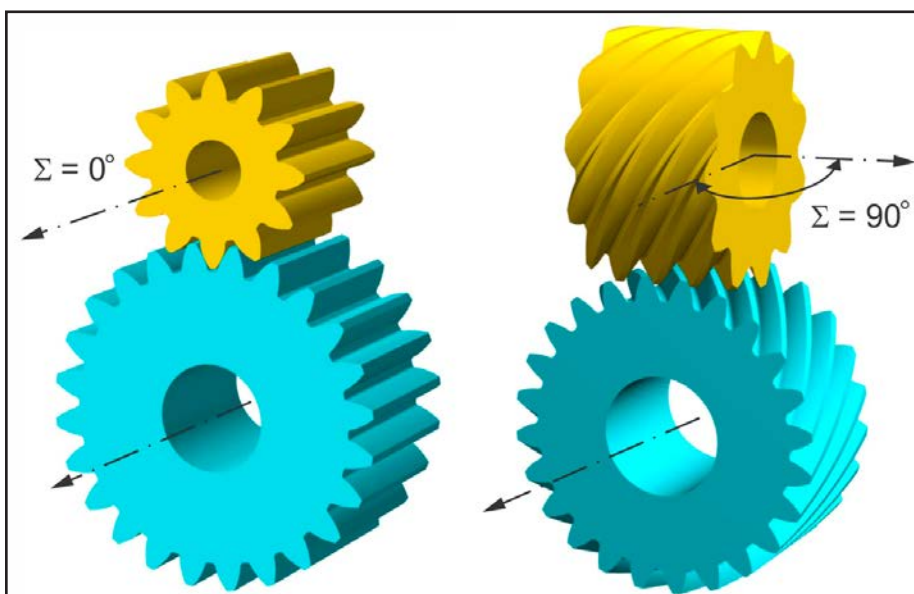

Figure 1 Spur gear pair (left) and 90° cross angle helical gear pair (right).
**Expert Response Provided by Dr. Hermann J. Stadtfeld.** Cross-helical gears are manufactured by a generating process using a trapezoidal generating profile. In the question, the pinion is referred to as a “Z1 worm.” A Z1 worm is paired with a worm gear. Although the worm has an involute profile, the worm gear pair has line contact and is not considered cross axes helical gearing. A Z1 worm gear pair is conjugate due to the fact that the worm gear is manufactured with a tool which resembles the mating worm. The following answer concentrates on cross axes helicals, where the contact and meshing conditions are quite different compared to those in worm gear drives. Figure 1